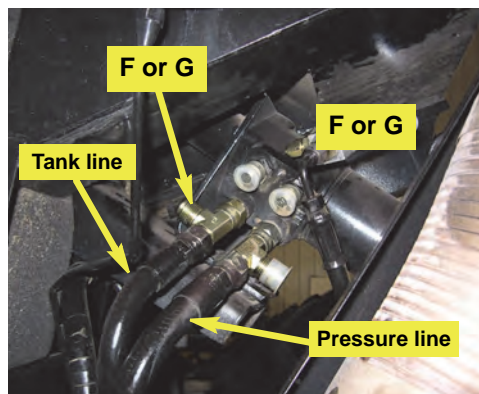

Figure 3c: Installed pressure and tank fittings
- b. Remove the bottom two lines from the orbital and install the provided run-tee fittings (F or G - see note following). Reattach the pressure and tank hoses to the ends of the run-tees on their original ports as shown (Figure 3c).